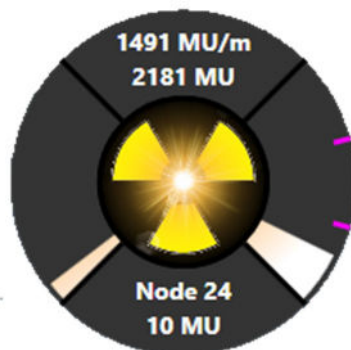

Figure 8.5.7. Beam Progress.
- The right quadrant shows progress in this treatment session. If there are multiple isocenters then this quadrant is divided into sections by a small pink notch. Each section is one isocenter. (See Figure 8.5.7 shows 3 isocenters)